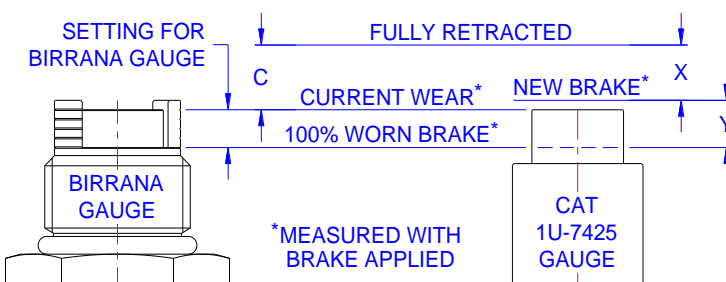

Figure 2
2. Refer to the CAT[®] instructions to determine the total movement of the gauge plunger when the brake goes from fully applied to fully released (measurement 'C'). Also refer to Figure 2.
3. Determine what the CAT[®] gauge plunger travel should be for a new brake (0 percent of brake wear) - refer to the table in the CAT[®] instructions, or for the relevant "baseline value for piston stroke". This will be referred to as measurement 'X'. Also refer to Figure 2.
Setting height from the sleeve to the bottom of the slot = 'X' + 'Y' - 'C' (Refer Figure 2)